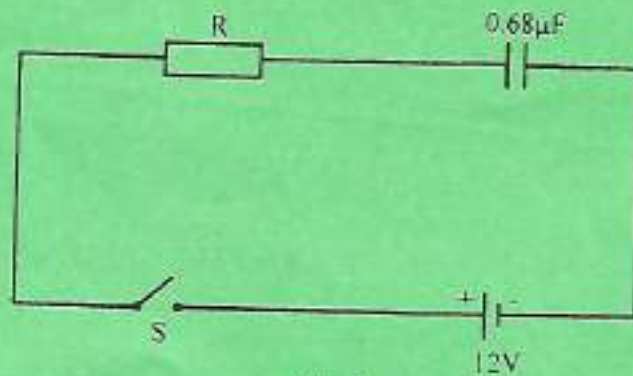

Fig. 2
- (c) Figure 2 shows a d.c circuit.